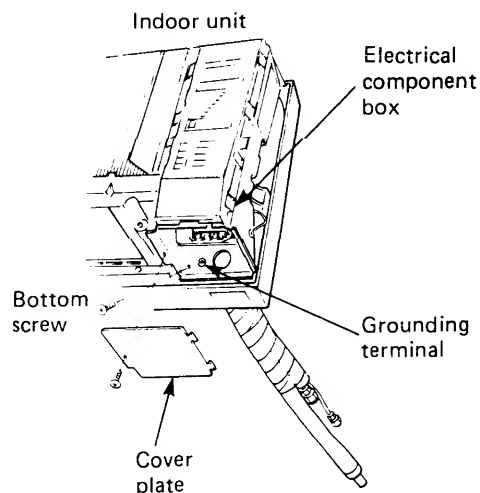

Fig. 15
- Unscrew the cover plate of the electrical component box. Then remove the bottom screw securing the electrical component box. Fig. 15